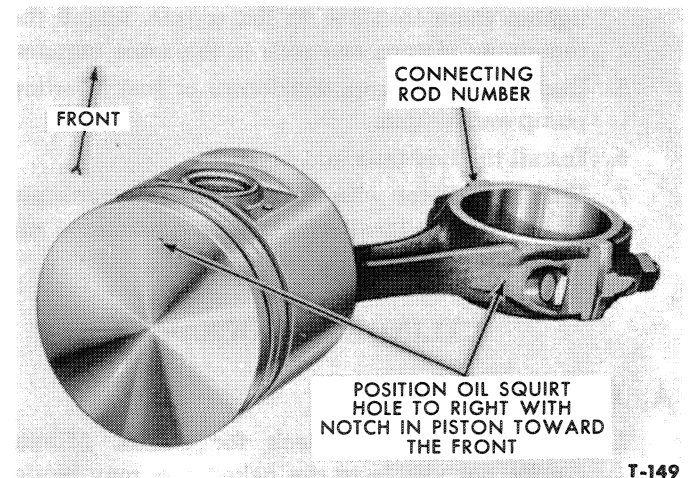
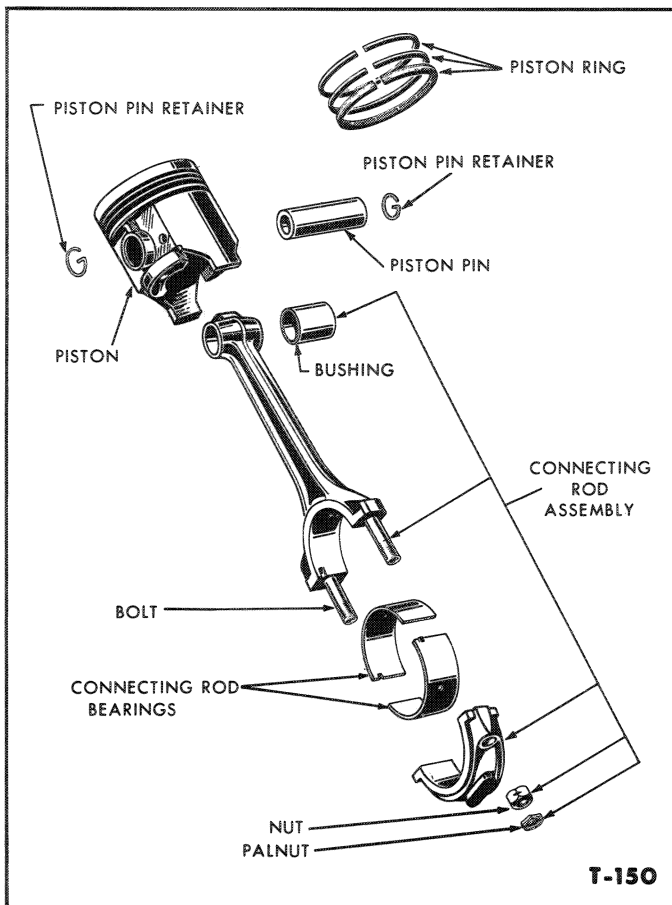

Figure 48—Correct Position of Piston in Relation to Connecting Rod
Figure 49—Piston and Connecting Rod Disassembled
2. Position a piston on its respective connecting rod as shown in Figure 48 and install the piston pin. Install two new piston pin retainers, see Figure 49.